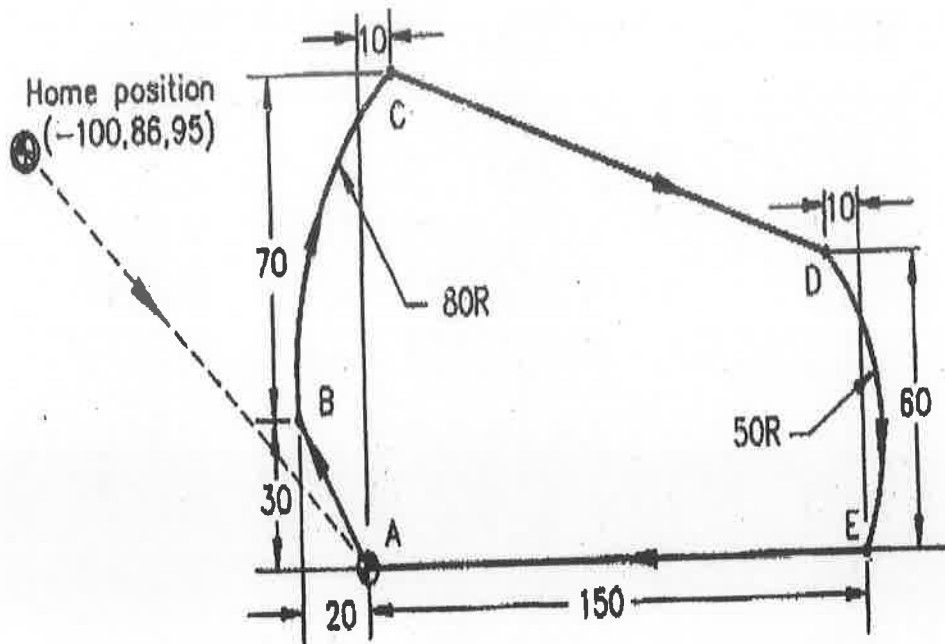

Fig. Q. 15 (a) (i)
15. a) i) Write the CNC program for the figure shown in Fig. Q. 15 (a) (i) Mention the assumptions made. (9)